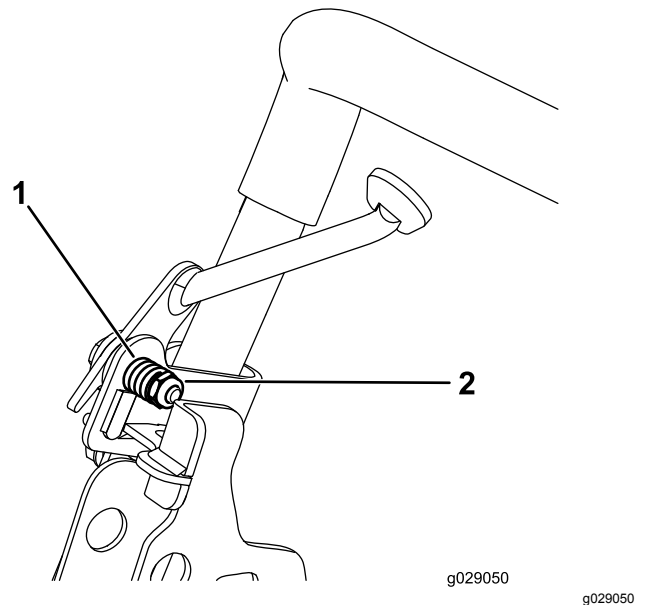

Figure 9
6. Tighten the nut on the throttle spring until the spring is fully compressed, then back off 1/2 turn. At high idle the throttle lever should not move; if it moves, tighten the nut on the throttle spring slightly (Figure 9).